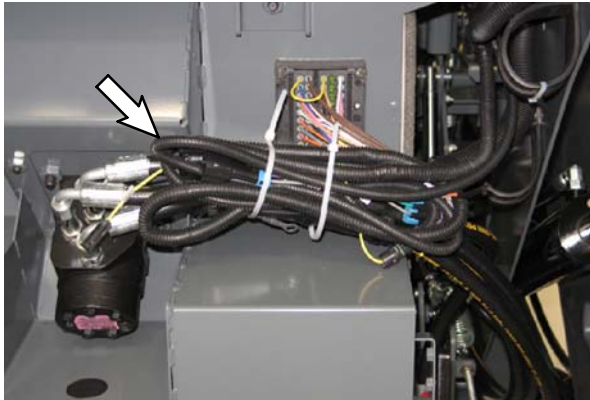
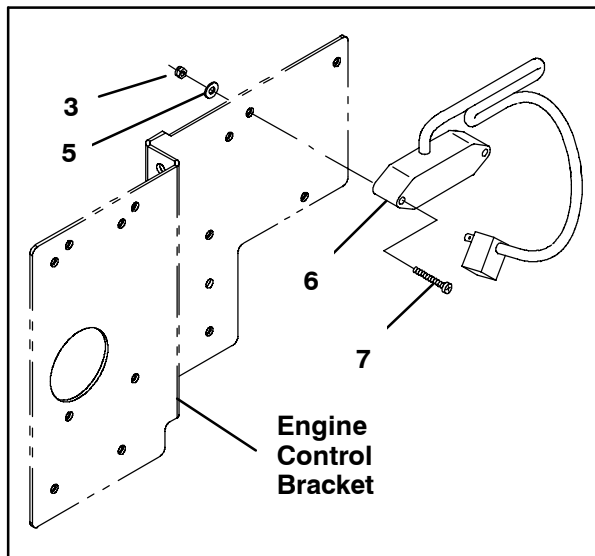
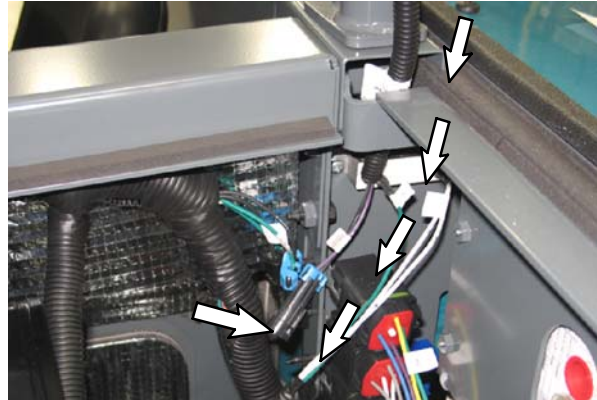
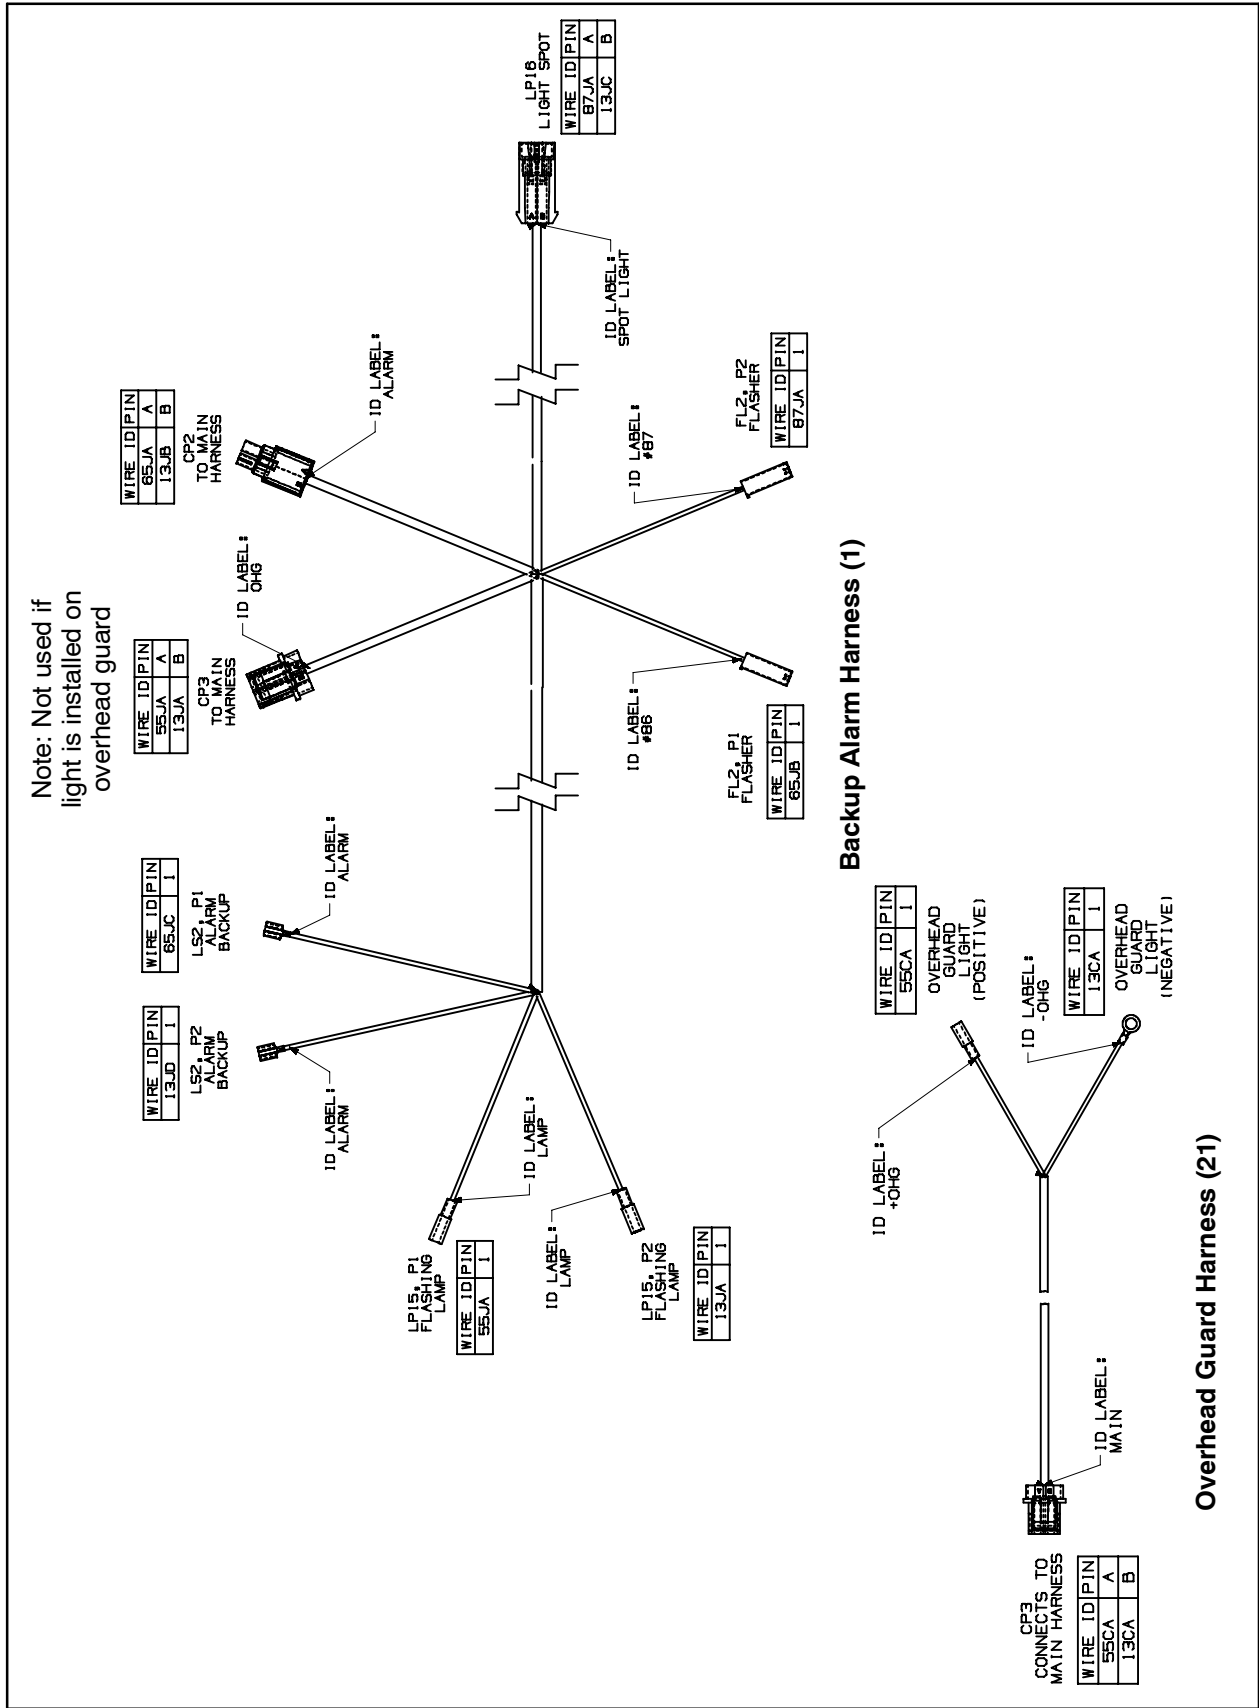

FIG. 10
FIG. 11
FIG. 12
FIG. 16
17. Cut the cable ties from the bundled section of the main wire harness and connect the the switch (15) cable to the main wire harness. Refer to the cable labels and Fig. 10, Fig. 16 and Fig. 17 for connection locations.
18. Use two pan screws (7), two washers (5), and two hex nuts (3) to install the flasher (6) onto the engine control bracket. Refer to Fig. 11.
19. **Machines with overhead guards only:** Route the overhead light harness (21) to the main wire harness and connect the overhead light harness to the main wire harness. Refer to the cable labels and Fig. 5, Fig. 12, Fig. 16, and Fig. 17 for routing/connection locations.
20. **Machines without overhead guards only:** Connect the backup harness (1) to the two main wire harness connectors located near the engine control bracket. Refer to the labels on each harness and Fig. 13, Fig. 16, and Fig. 17 for connection locations.
**Machines with overhead guards only:** Connect the backup harness (1) to the remaining main wire harness connector located near the engine control bracket. Refer to the labels on each harness and Fig. 16 and Fig. 17 for connection locations.
21. Connect the backup harness (1) to the flasher (6). Refer to the cable labels and Fig. 11, Fig. 14, Fig. 16 and Fig. 17 for connection locations.
23. Route the backup harness (1), through the cable clamp (22), to the backup alarm (8) (and light (20) if light is installed on bracket) and connect the component(s) to the harness. Refer to the cable labels and Fig. 14, Fig. 16, and Fig. 17 for routing/connection locations.
24. Route the backup harness (1) to the back light (2) and connect the harness to the light. Refer to the cable labels and Fig. 12, Fig. 14, and Fig. 15, and Fig. 17 for the routing/connection location.